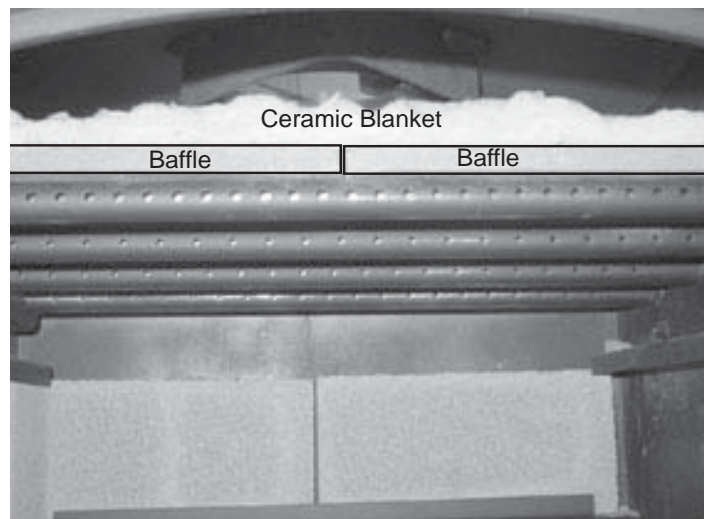

Figure 19.4
5. To re-install the ceramic blanket, it is easier to fold it in half first. Place on top of baffle board, open up and flatten and smooth out the blanket. Re-check the baffle board for correct positioning. **Figure 19.4**